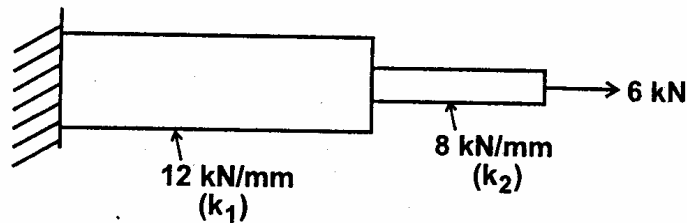

figure 2.4
4. Calculate the nodal displacements and forces for the bar loaded as shown in figure 2.4